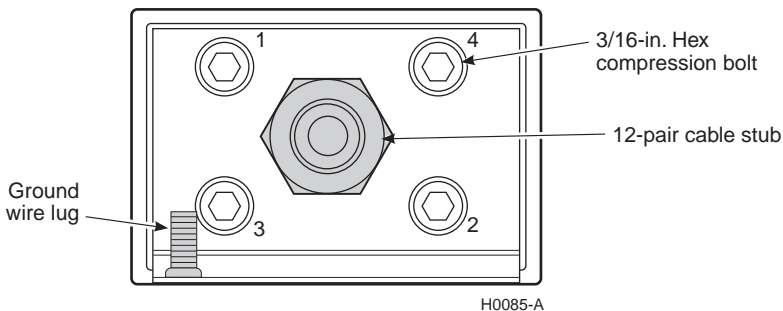

Figure 2. End-Cap Compression Bolts
- 7 Torque the four compression bolts on the end cap in the sequence shown in Figure 2. In addition, the four compression bolts must be torqued according to their specified torque levels and in the number sequence shown in Table 1.